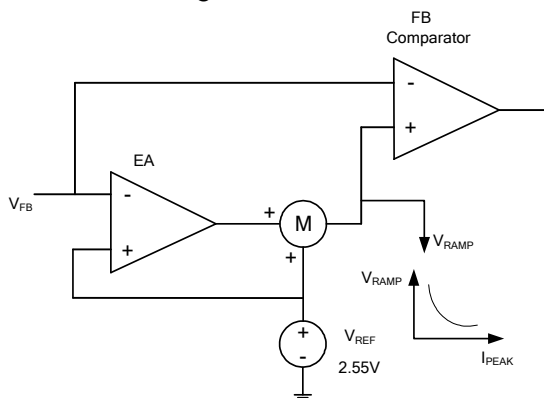

Figure 4: EA and Ramp Compensation Ramp Compensation
The MP171A has an internal error amplifier (EA) compensation loop (see Figure 4). It samples the feedback voltage $6\mu s$ after the MOSFET turns off, and regulates the output based on the 2.55V reference voltage.
An internal ramp compensation circuit improves the load regulation. An exponential voltage signal is added to pull down the feedback comparator’s reference voltage (see Figure 4). The ramp compensation is a function of the load conditions; the compensation is about 1mV/ μs under full-load conditions. The compensation increases exponentially as the peak current decreases.